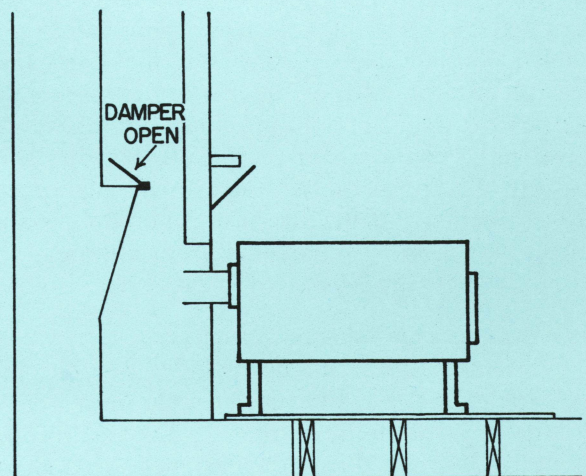

Fig. 3. Stove pipe entering the fireplace opening.
Installing the stove with the stove pipe entering the fireplace box is the easiest installation (Fig. 3). This can be done by placing a shield of metal or asbestos millboard across the fireplace opening and cutting a hole to insert the stove pipe. **This type of installation is the least satisfactory and is potentially dangerous because the cooler environment in the fireplace opening can result in more creosote accumulation and less draft.** If slow burning fires prevail, liquid creosote may flow out beneath the cover panel into the house. Shelton (1) reports solid creosote building up 2 or 3 inches thick inside the fireplace. If this were to ignite, a serious fire could result. By extending the pipe into the damper you can reduce the creosote and draft problem.